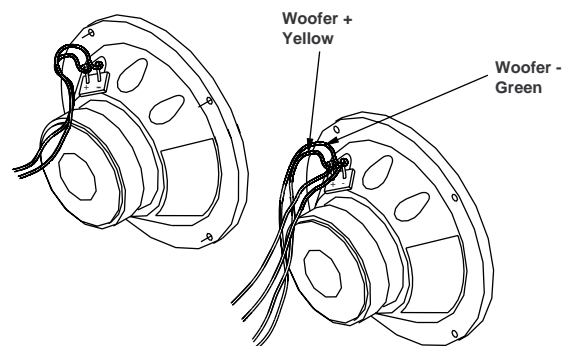

Figure 8. Woofer Harness Hookup
9.6 Cut the wires as close to the terminals as possible. Refer to Figure 8.
10.1 Strip the ends of the module's wiring harness. Connect the yellow wire to the replacement woofer's (6) + positive terminal and the green wire to the - negative terminal. Refer to Figure 8.